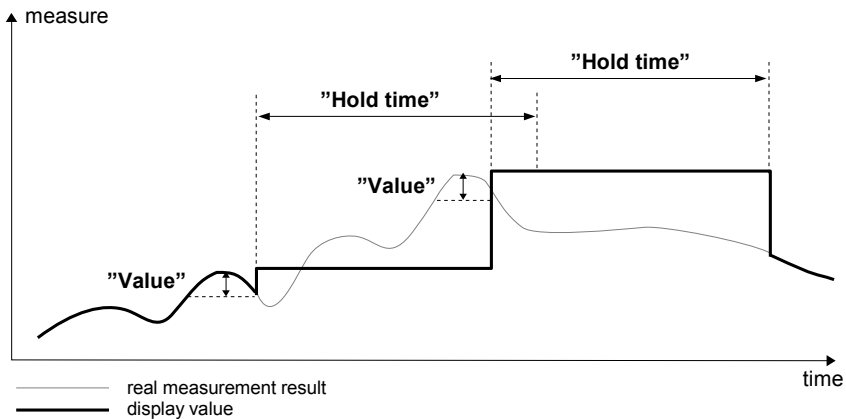

Fig. 7.42. Process of peak detection
- **peak detect** – the function which allows to detect and visualize peak values in a measured signal. Detection of the peak value can be performed if the measured signal raises and drops (or the opposite) in value, which is settable by the user. Next, the detected value can be held for a period of time settable by user. If during the time when a peak is detected, a new peak is detected, then the peak value is updated and the time of hold is reset. When this time elapses, or no peak is detected, the device will display the current value of the signal (see **Fig. 7.42**).